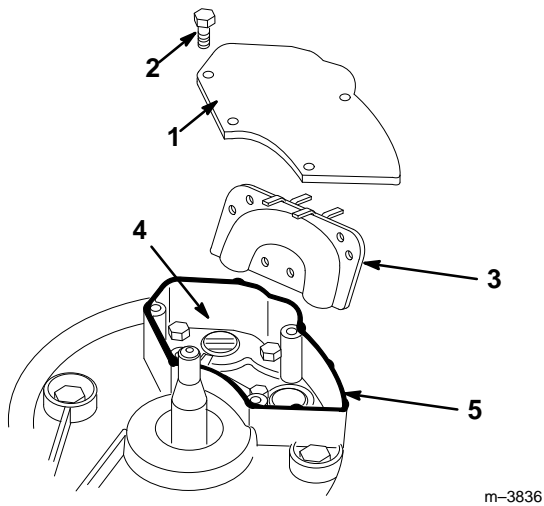

Figure 35
6. Remove (4) capscrews attaching cover plate to engine mounting plate (Fig. 35).
7. Remove transfer pipe (Fig. 35).
8. Rotate crankshaft slowly until piston covers exhaust port (Fig. 35).
12. Run a bead of high temperature, automotive silicone sealant along the edge of the engine mounting plate where the cover plate will rest (Fig. 35).
13. Reinstall transfer pipe and cover plate (Fig. 35), torquing the (4) capscrews to 75 in lbs (8.5 N-m).